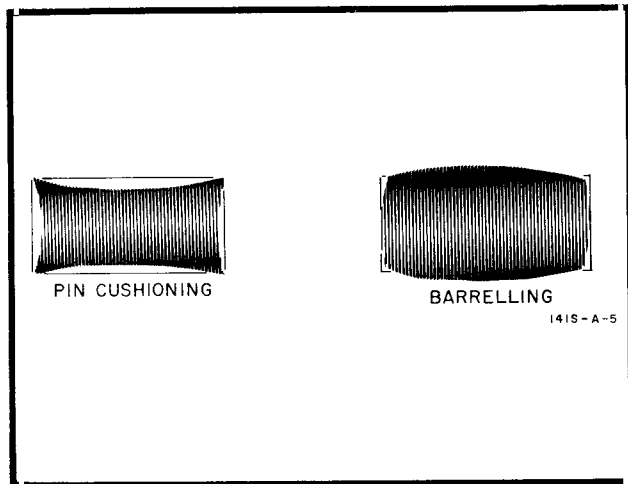

Figure 5-1. Pincushioning and Barrelling
- h. Check the displayed pattern for excessive pin-cushioning or barreling as shown in Figure 5-1. If either effect is present, adjust R643 to obtain a rectangular pattern with straight vertical and horizontal edges.
d. Check the displayed pattern for excessive pin-cushioning or barreling as shown in Figure 5-1. If either effect is present, adjust R643 to obtain a rectangular pattern with straight vertical and horizontal edges.